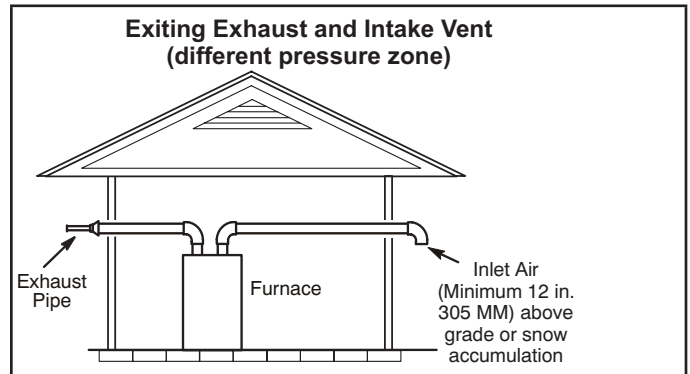

FIGURE 33
- 1 - Intake and exhaust terminations are not required to be in the same pressure zone. You may exit the intake on one side of the structure and the exhaust on another side (FIGURE 33). You may exit the exhaust out the roof and the intake out the side of the structure (FIGURE 34).